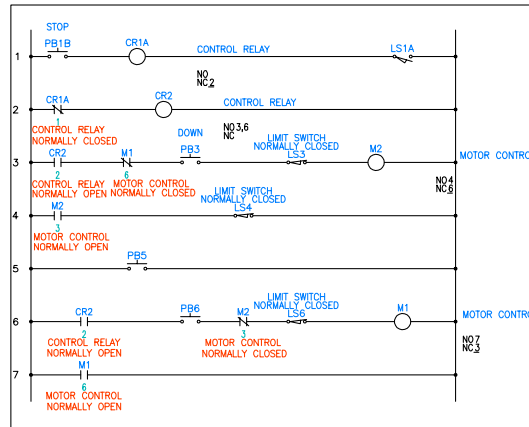

Figure 6-50 The copied components
15. Next, select limit switch LS3 from 3rd rung and copy it at **15,15**. Again, select LS3 and copy it at **16,13**. You will notice that the limit switch is inserted in rung 4 and rung 6. Keep the values in the **Description** area intact. Figure 6-50 shows the copied components.